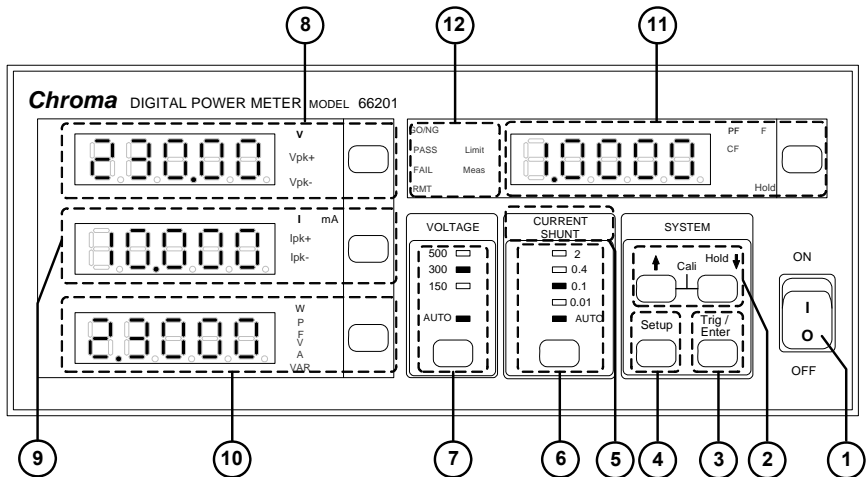
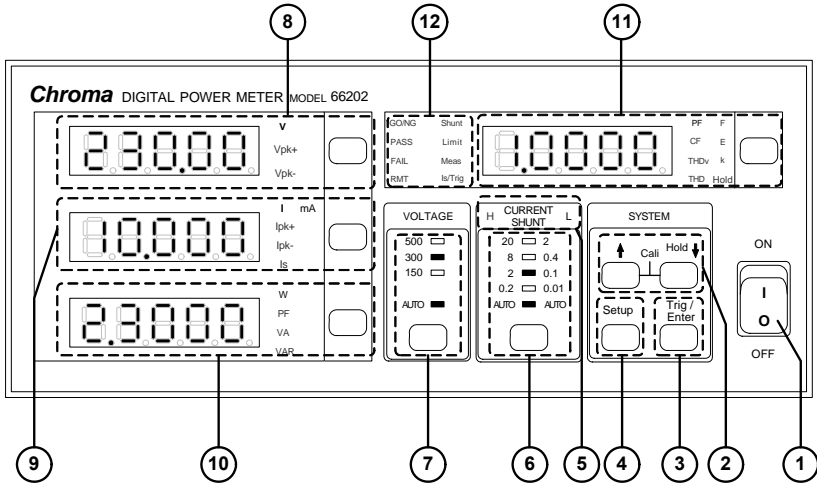

Figure 2-1 Front Panel of 66201 Digital Power Meter
Figure 2-2 Front Panel of 66202 Digital Power Meter
Figure 2-1 and Figure 2-2 show the front panel of 66201 and 66202 digital power meters with parts described from item (1) to (12) as listed below. For detail operation procedures, please see the User's Manual in the CD attached to the shipment.